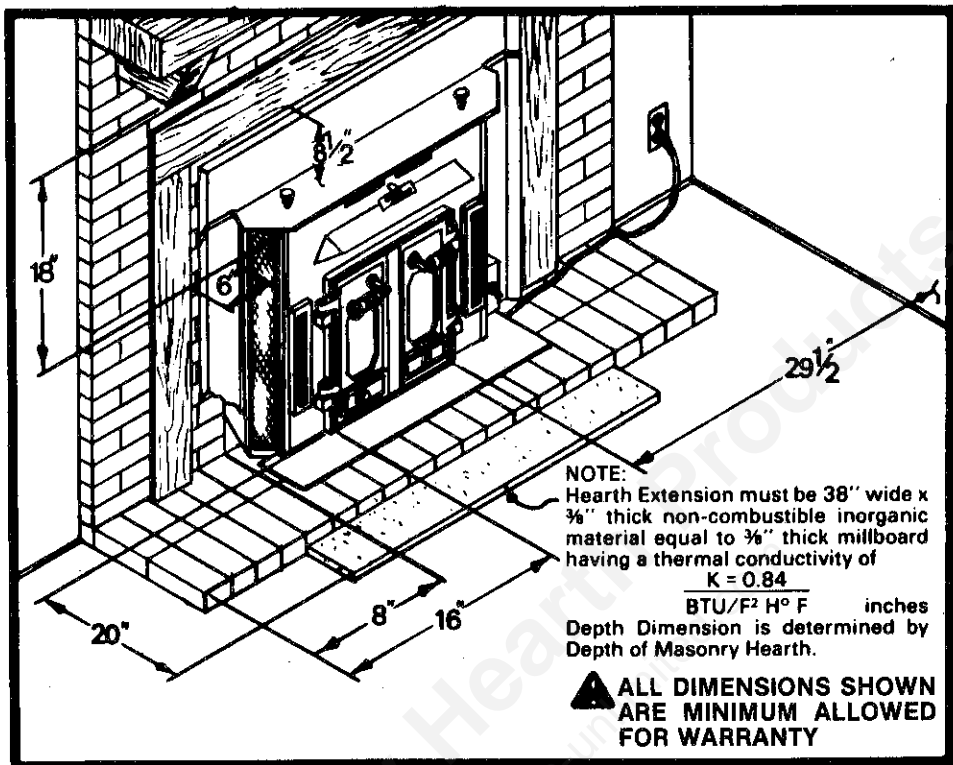

FIGURE 2
4. If your fireplace has wood trim above it, or a wood mantel, it must be located so there is at least 20" between the top of the **BUCK STOVE** and any part of the trim or mantel including supports. This can be reduced to 18" (See Figure 2) if a modified trim kit is used (examples shown in Figure 8, Page 9 and Bending Modification Tip for Modified Trim Kit Page 10.)